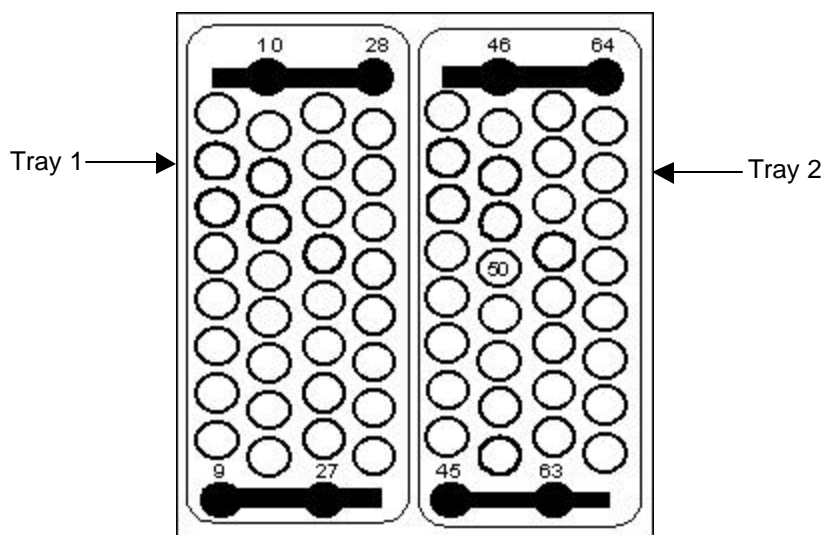

Figure 4-7 Calibration Bar Placements
- In Tray 1, place one calibration bar in positions 9 and 27 and the other in positions 10 and 28. Make sure that both bars are firmly situated and correctly oriented (Figure 4-7). **Failure to correctly orient the calibration bars will cause the arm movement to be misaligned with the vials.**
10. In Tray 2, place one calibration bar in positions 45 and 63 and the other in positions 46 and 64. Make sure that both bars are oriented correctly (see Figure 4-7).